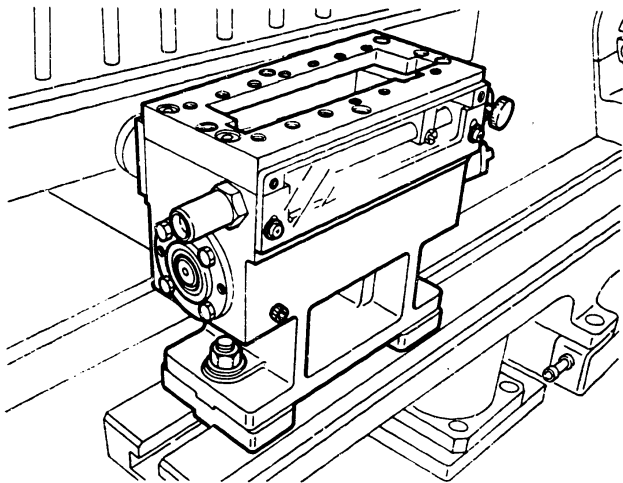

Fig. 17 Installing the driving stand
2. Install the driving stand on the pump test stand's bed. (Figure 17).